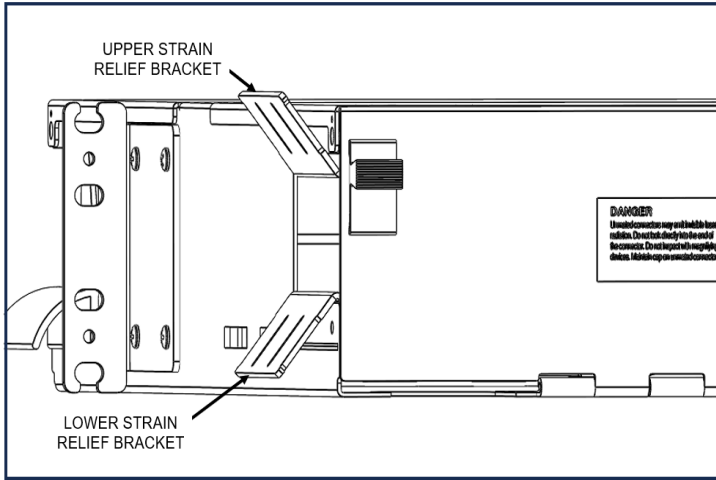

Figure 6
6.3) When required, attach the Upper and/or Lower strain relief brackets to the rear of the enclosure as shown in Figure 6. Threaded studs are provided on the inside surface of the enclosure to accommodate the brackets.